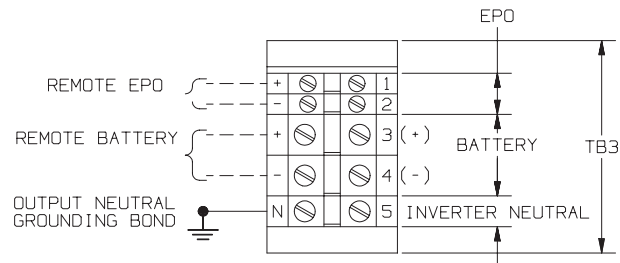

Figure 10. Terminal Block (3)
5. The neutral conductor of the output circuit is bonded to the chassis/ground as configured at the factory. If the output neutral is not to be grounded, remove the bonding wire (green with yellow stripe) that runs from TB3-5 to the frame ground (see Figure 10).